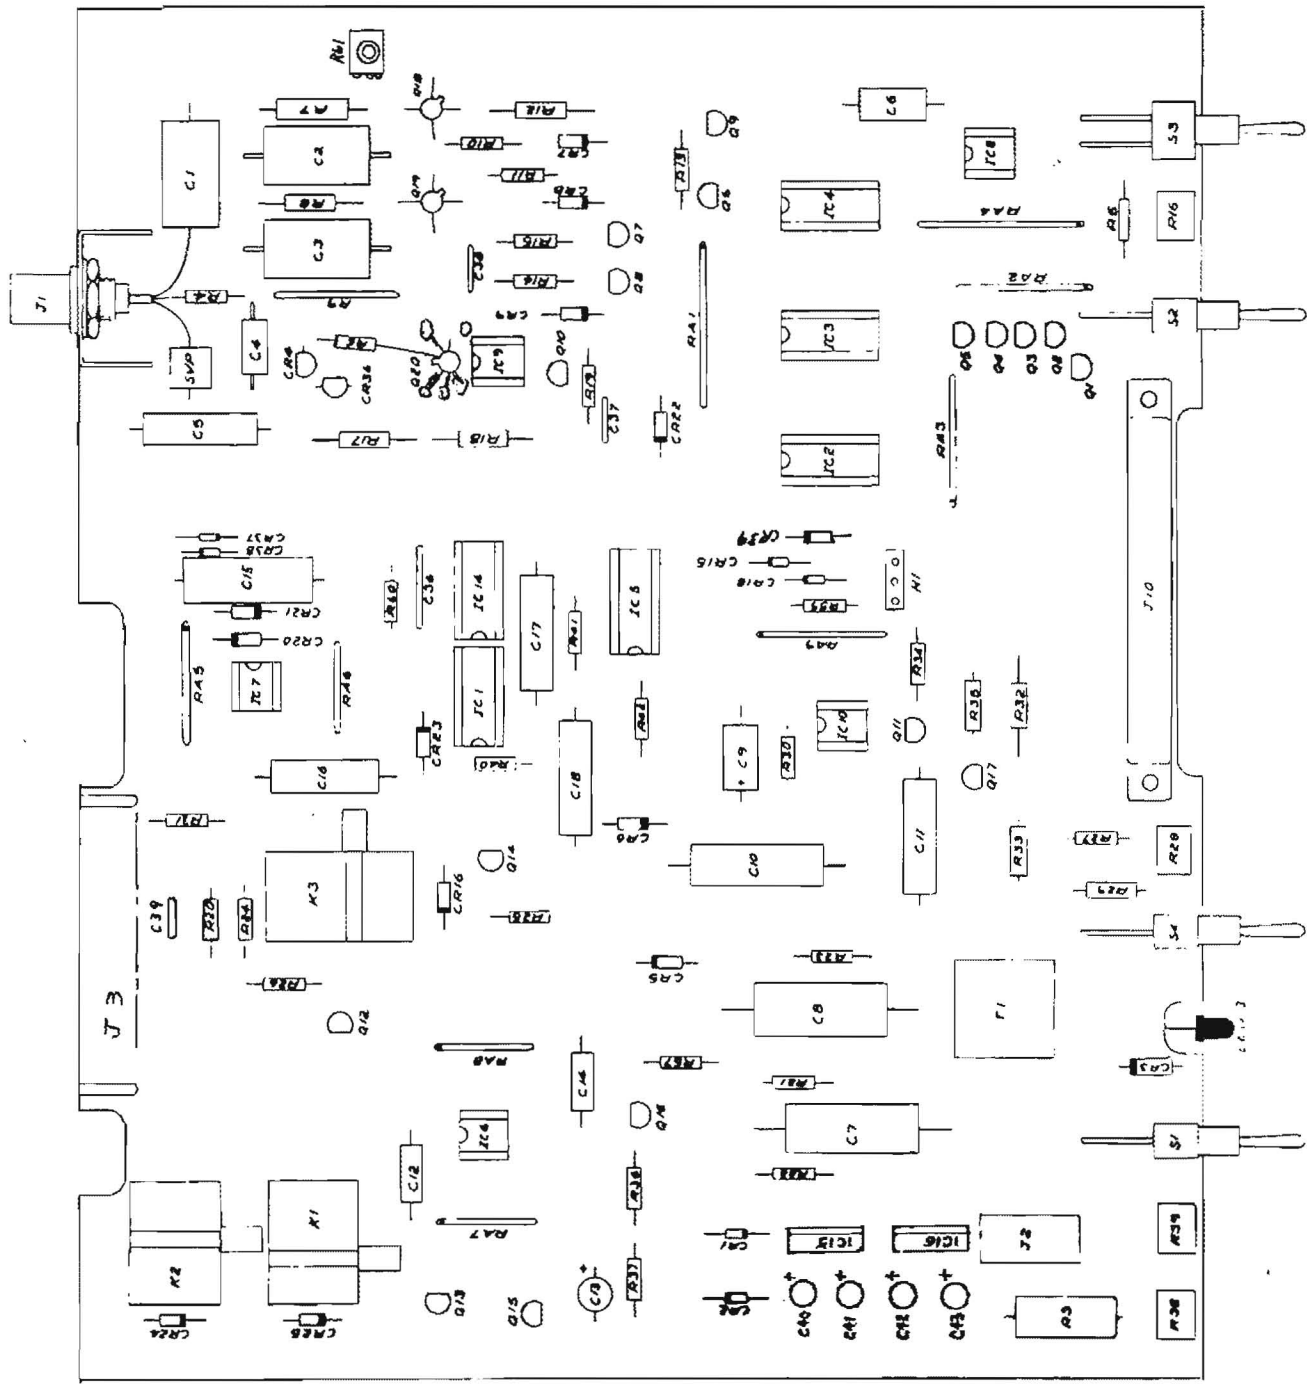

FIG.6-1 COMPONENT LOCATION MAIN BOARD
6.8 Ion Gauge Process Control (Refer to Fig. 5-7 and Fig. 6-1)
7.1 Replacement and Repair Order Instructions (Refer to Figs. 6-1, 6-2, 6-3 and 6-4)
7.2 Main Circuit Board Parts List (Refer to Fig. 6-1)